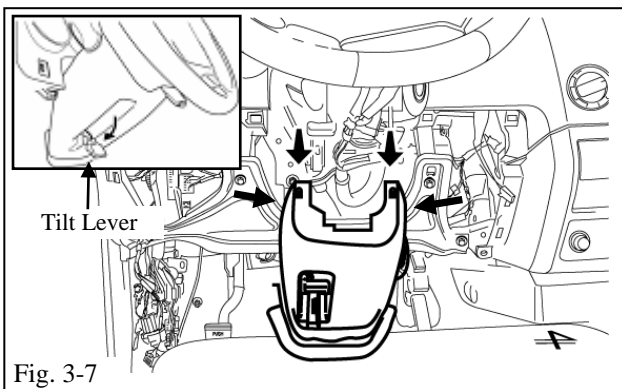

Fig. 3-7
(g) Release the Tilt Lever. (Fig. 3-7)
- (h) Press inwards on each side of the Steering Column Cover while pulling downward to remove the cover. (Fig. 3-7)